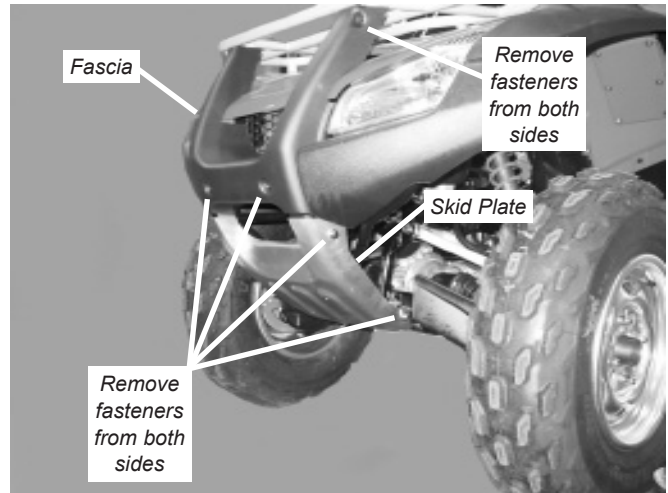

Figure 1 Remove Front Fascia and Skid Plate
1. Begin by removing the front fascia and front skid plate on the vehicle as shown in figure 1. Save the fasteners as they will be used later in the installation.